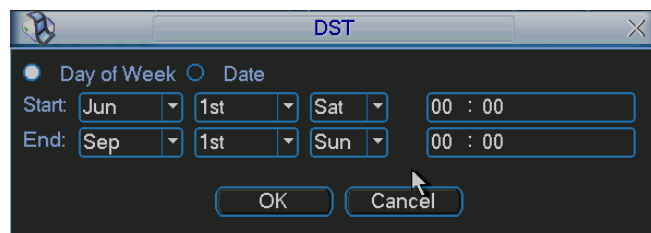
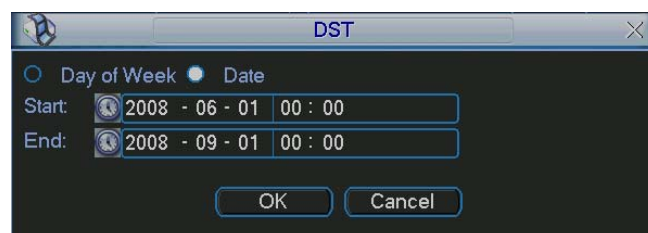

Figure 5-4
Figure 5-5
- DST: Here you can set DST time and date. Please enable DST function and then click set button. You can see an interface is shown as in Figure 5-4. Here you can set start time and end time by setting corresponding week setup. In Figure 5-4X, enable date button, you can see an interface is shown as in Figure 5-5. Here you can set start time and end time by setting corresponding date setup.